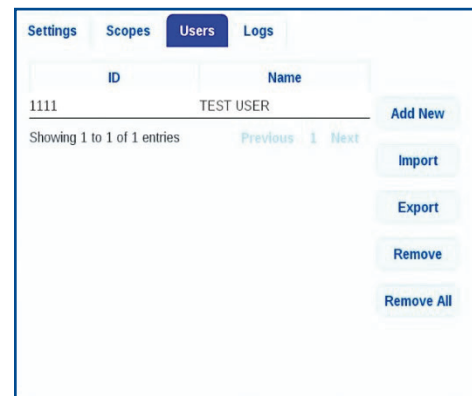

Fig. 52
5. Press the **Users Tab** and then press the Import button to import the list of users (Fig. 52).